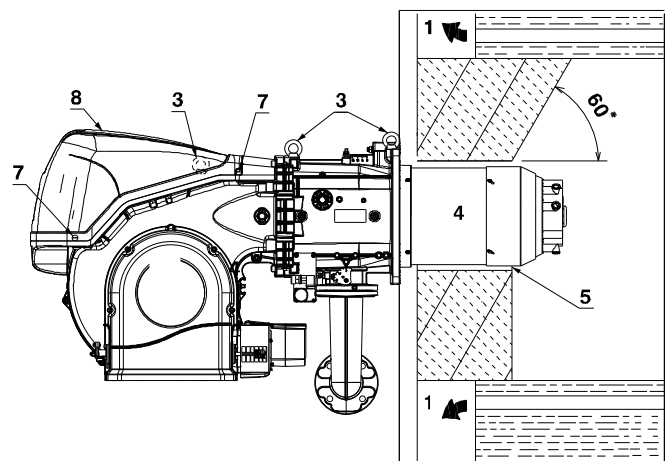

Fig. 11
For boilers with front flue passes 1)(Fig. 11) or flame inversion chamber, a protection in refractory material 5) must be inserted between the boiler fettling 2) and the blast tube 4).
Prepare a suitable lifting system using the rings 3)(Fig. 11), after removing the fixing screws 7) of the casing 8).
- Fit the heat insulation supplied onto the blast tube 4)(Fig. 11).